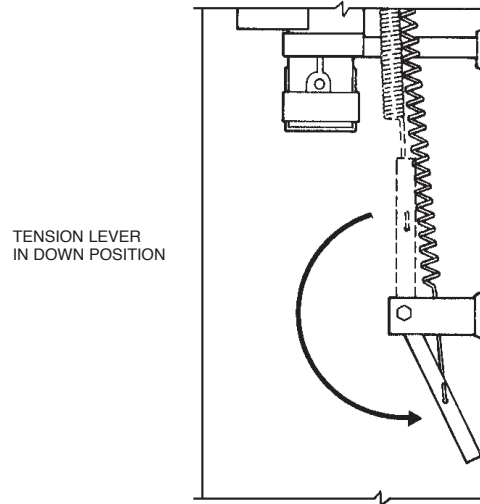

FIGURE 8-8
21. Lower tension lever to **Down** position. See Figure 8-8.